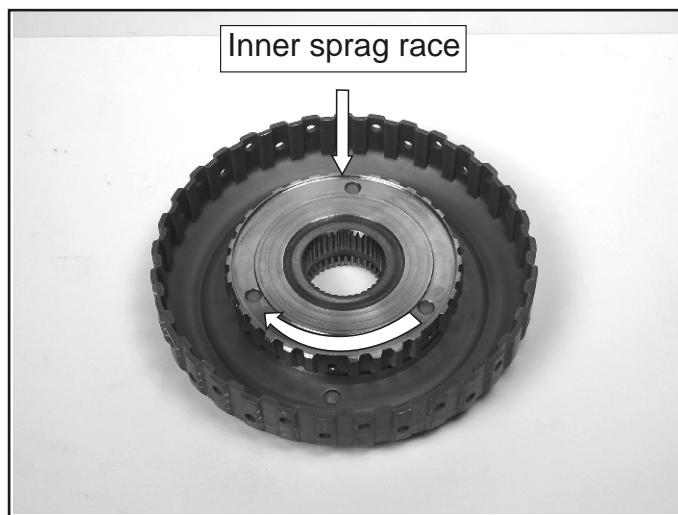

Figure 128
- 74. Remove the inner race rotating it clockwise as shown in Figure 128.